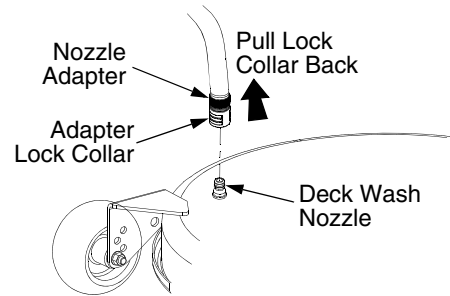

Figure 36
- Pull back the lock collar of the nozzle adapter and push the adapter onto the deck wash nozzle at the left end of the mower deck. Release the lock collar to lock the adapter on the nozzle. See Figure 36.